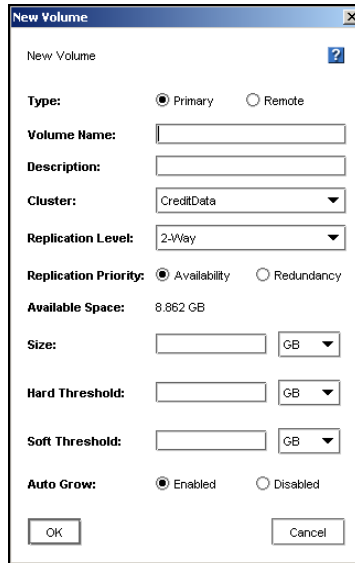

Figure 150. Creating a New Primary Volume
4. The New Volume window opens, shown in Figure 150. See Table 41 on page 222 for detailed information about setting volume parameters. See "Requirements for Volumes" for a detailed description of each item.
The window for a new primary volume is shown in Figure 150.